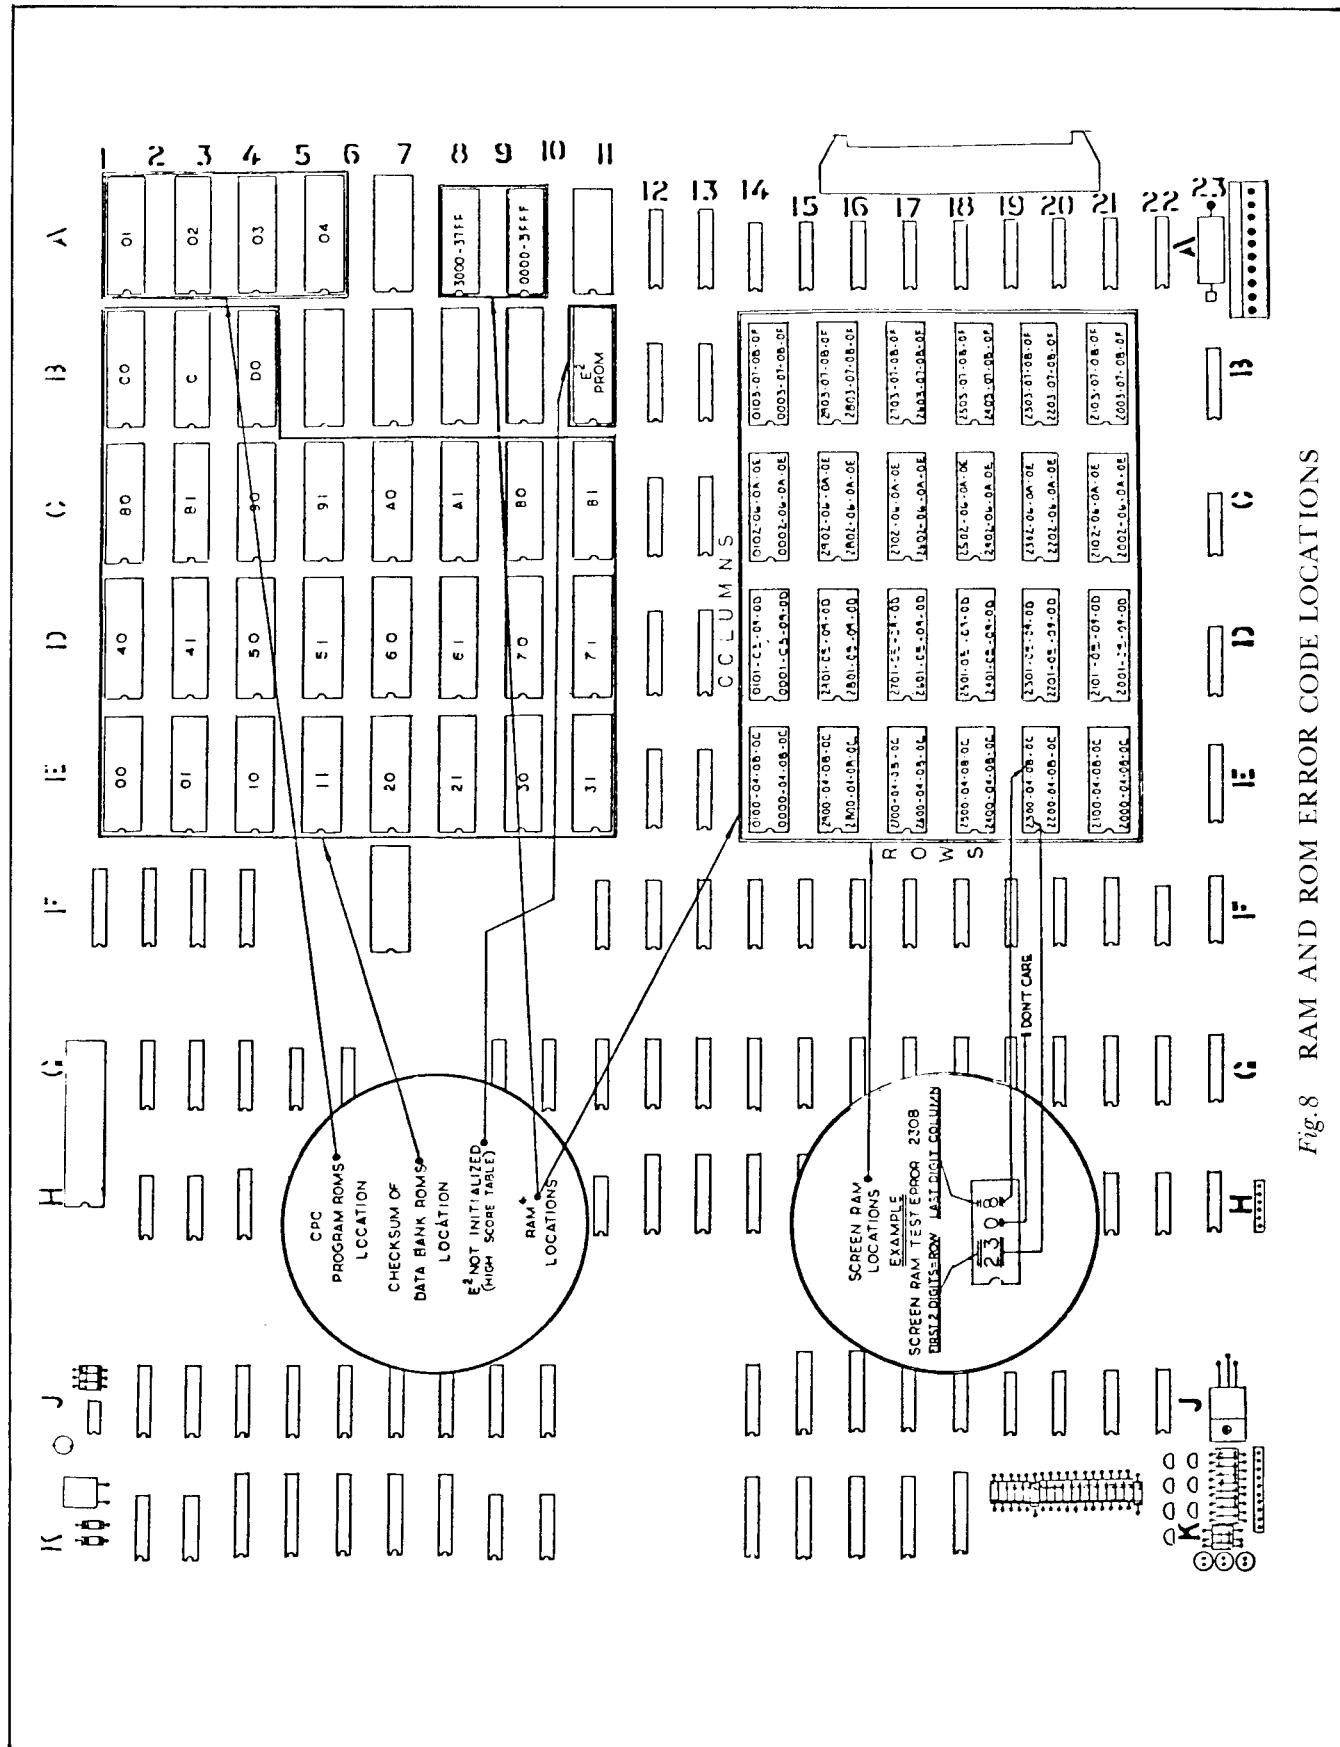

Fig. 8 RAM AND ROM ERROR CODE LOCATIONS
* See Diagnostic Error Code FIG. 8 for suspected location of RAM or ROM.